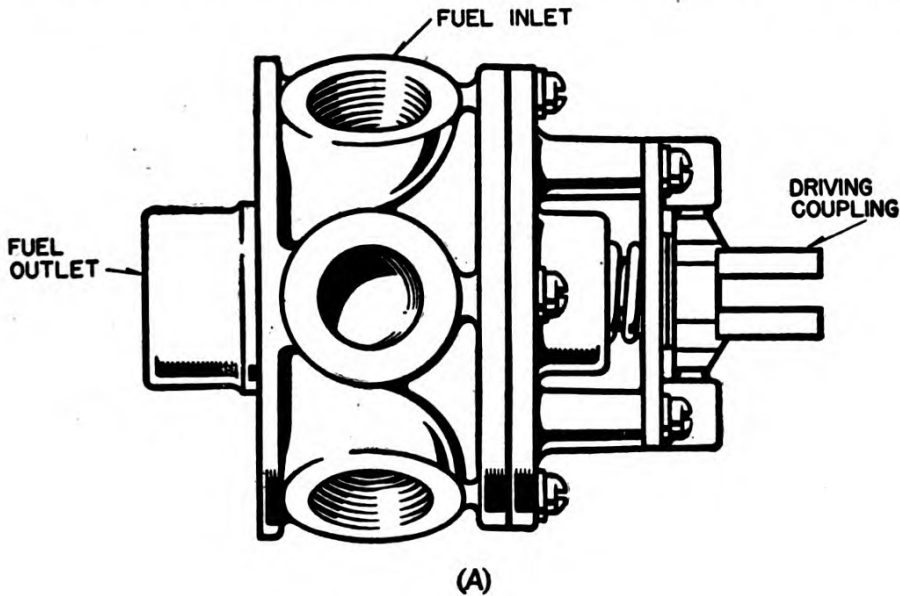

Figure 21.—Fuel-selector cock.
In figure 21, view (A), you will see an outside view of a commonly used type of selector cock. The central rotating section, or plug, of the cock